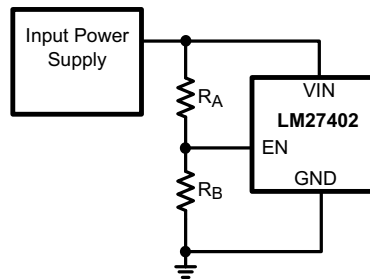
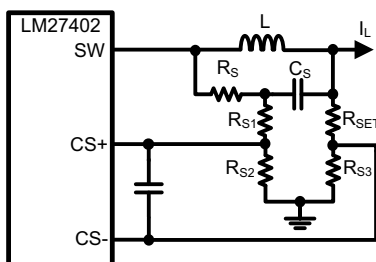

Figure 28. Enable Sequencing
Figure 34. Common Mode Voltage Resistor Divider Network
If enable (EN) is not controlled directly, the LM27402 can be pre-programmed to turn on at an input voltage higher than the UVLO voltage. This is done with an external resistor divider from V_{IN} to EN and EN to GND as shown in Figure 28.
The internal current source I_{CS-} is powered from the input voltage rail, V_{IN} . The minimum voltage required to drive that current source is 1 V from V_{IN} to V_{OUT} . If a low-dropout condition occurs where $V_{IN} - V_{OUT} < 1$ V, the LM27402 may prematurely initiate hiccup mode. There are multiple options to avoid this situation. The first option is to enable the LM27402 after the input voltage has risen 1 V above the nominal output voltage as seen in Figure 28. The second option is to lower the comparator common-mode voltage shown in Figure 34 such that the I_{CS-} current source has enough headroom voltage.